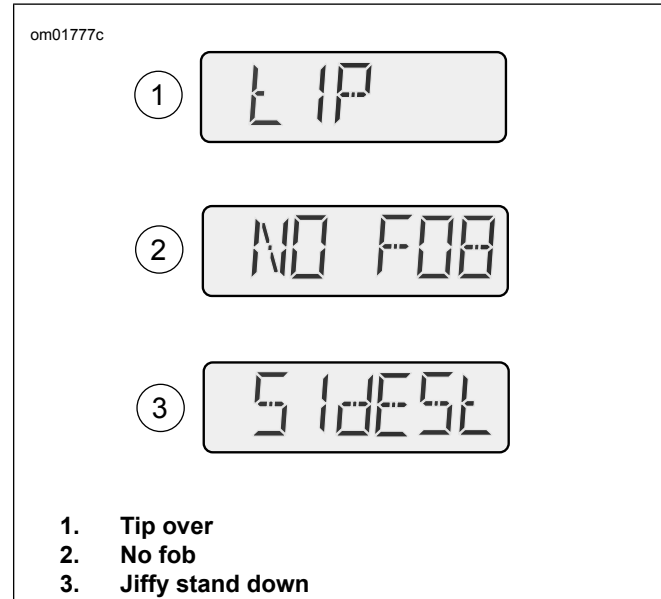

Figure 32. tIP, NO FOB and SidEstAnd
See Figure 32. When the motorcycle is tipped over, the word "tIP" (1) appears in the odometer window. The engine does not start until reset.
See Figure 32. If the motorcycle has a security system and is driven off leaving the fob behind, "NO FOB" (2) is displayed in
See Figure 32. On international (HDI) models, if the motorcycle is placed into gear while the jiffy stand is down a 'SidEstAnd' (3) message is displayed. See Before Riding > Operating Jiffy Stand (Page 37).